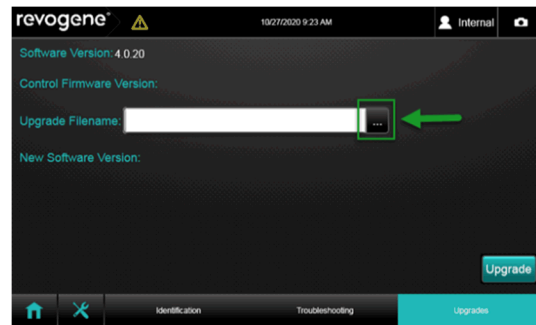

Figure 3. Installer File Selection Button
5. Tap the <...> button (Figure 3).